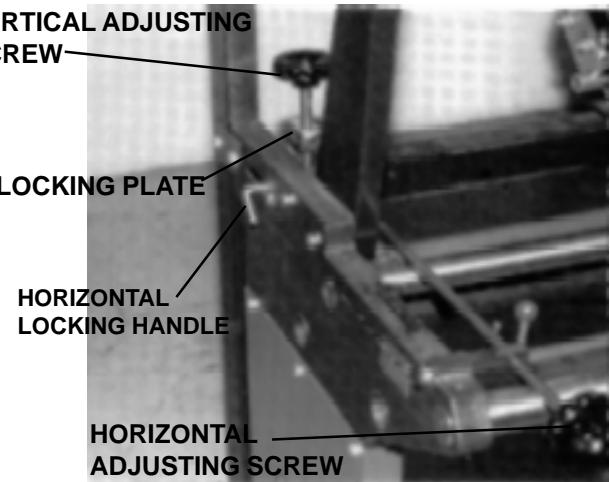
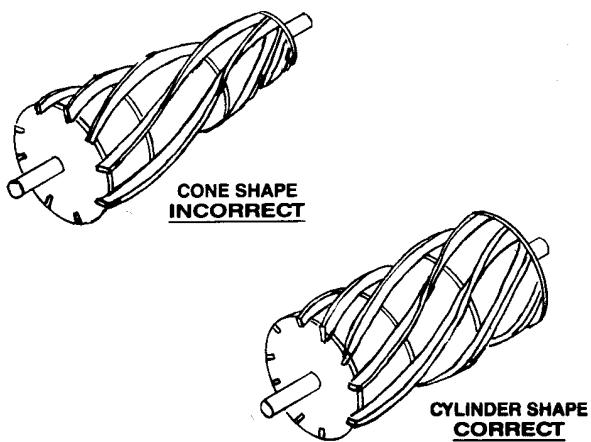

Fig. 21
Fig. 22
1. With the reel set gage still in the left hand side of reel, turn the horizontal adjusting screw (Fig. 21) in the direction required to match the initial indicator reading on the right hand reel position side. (See Fig. 19A, 19B, 19C)
- I. When the horizontal parallelism has been adjusted to within .003" end to end tighten the horizontal adjustment locking handle (See Fig. 21), and both overhead clamp adjusting knobs. (See Fig. 22) When tightening the knob it is very important that you have the dial indicator located at the side of the reel and watch it as you tighten. It must not move in the tightening process. After both knobs are tight, recheck alignment.
A. Before storing the set-up gage, it is very effective to use it to check the unground reel to determine the amount the reel is conical in shape or which end has the larger diameter. (See Fig. 22) Start with the set-up gage at the right end of the reel. Loosen the wing nut on the indicator stop bar, holding the indicator rod firmly against one blade (see Fig. 24). Pull the indicator stop bar back until it clears the plunger, then advance it forward until it contacts the plunger and advances it $1/2$ inch further. Lock in place. This sets the plunger at its midpoint and allows adequate movement in both directions. Set outer dial at zero and note position of pointer on small dial.